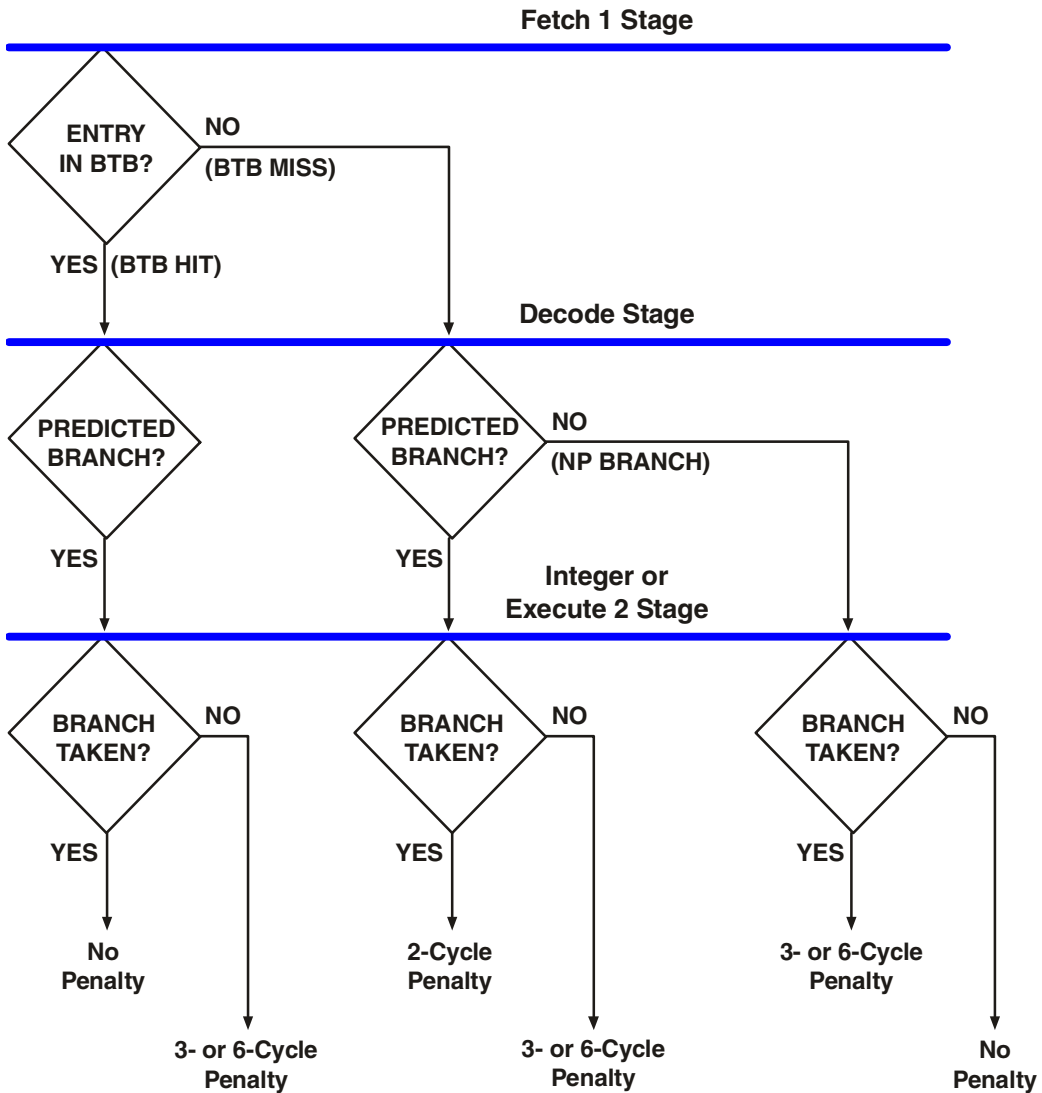

Figure 7-21. Branch Prediction Penalty Tree¹
Now that the controls for the BTB (bits in the `SQCTL` register) and the structure of the BTB (set, way, tag, target, LRU) are understood, it is important to look at how the BTB and branch prediction relate to the instruction pipeline. A flow chart of the sequencer's BTB and branch prediction operations with related branch costs (penalty cycles) appears in Figure 7-21.
As shown in Figure 7-21, BTB usage and branch prediction are independent. The sequencer always compares the fetched instruction against the BTB contents when the instruction is at pipeline Fetch 1 stage. If there is a BTB miss, the branch prediction tells the sequencer at later stages what to assume and when to make its decision. At pipeline Decode stage, the sequencer knows that the instruction is a branch and whether it is a predicted branch or a not predicted (NP) branch. This stage is where the pipeline makes the decision on where to fetch from next. This prediction also affects whether or not the branch is entered into the BTB, so that a hit occurs for the next iteration.
-  By default, all conditional branches are predicted branches (predicted as taken) and are unconditional branches (treated as though prefixed with the condition `IF TRUE`). Only conditional branches with the (NP) (not predicted) option are predicted a not taken.
- Condition pipe stage—pipeline stage Integer or Execute 2—when is it resolved (See the Branch Prediction Penalty Tree in Figure 7-21 on page 7-38.)